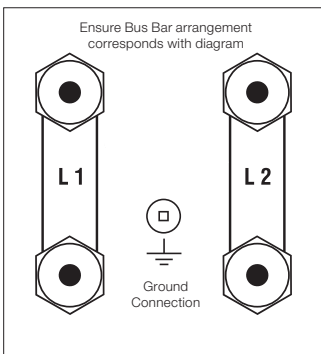

Figure 4 – Elements in parallel
3. Ground connections for 120V and higher voltage heaters are required as indicated in Figure 4 and 5, page 5.
4. The number of terminals in the junction box can be two or four depending on the number of elements used in the fabrication of the heater. All MKII models incorporate a single element and therefore have only two terminals. The connection procedure for the different combinations is as described in Figure 4 and 5, page 5.